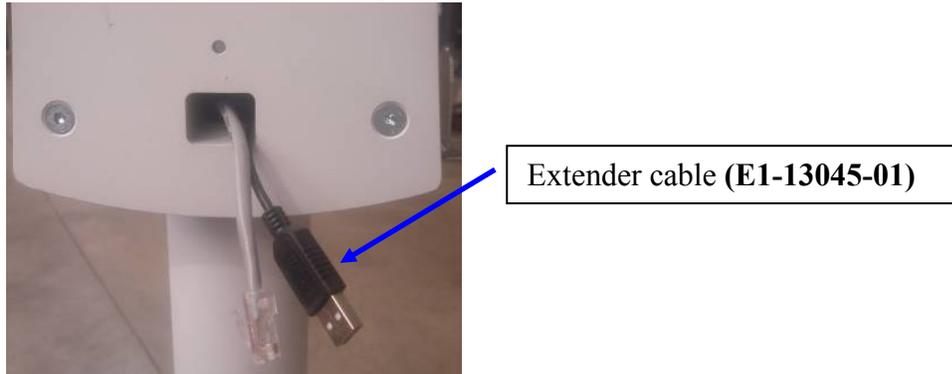

Figure 47
10. The other end of the extender USB cable (part #E1-13045-01) will be located in the front of the operator panel mounting plate (see Figure 47 on page 27).